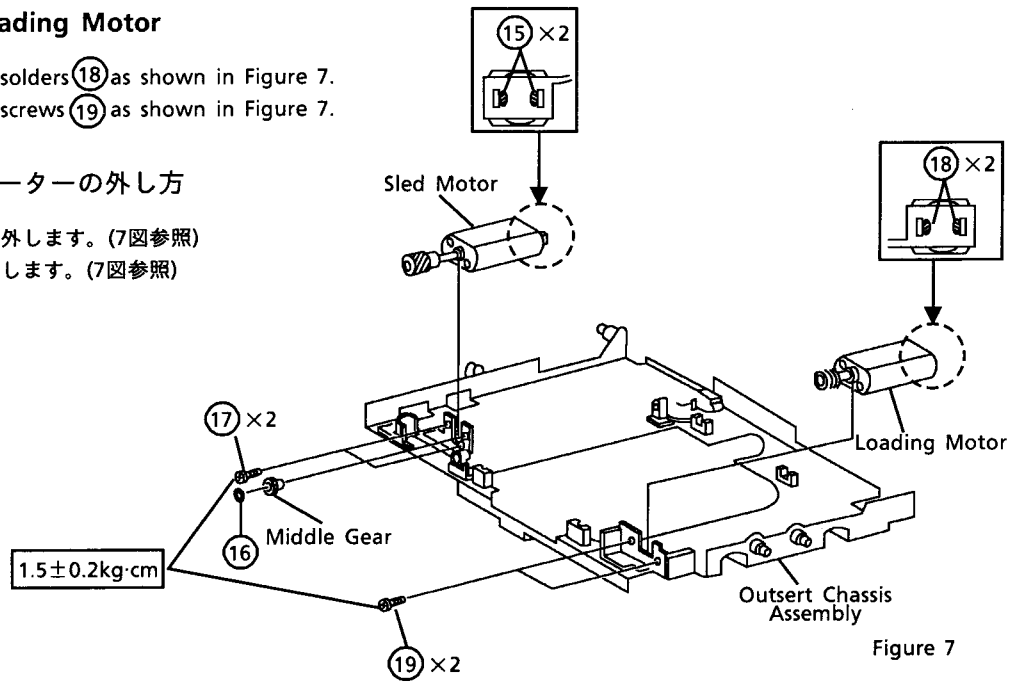

Figure 7
- (1) Remove the two solders (15) as shown in Figure 7.
- (2) Remove the Middle Gear, by removing the washer (16) as shown in Figure 7.
- (3) Remove the two screws (17) as shown in Figure 7.
- (1) Remove the two solders (18) as shown in Figure 7.
- (2) Remove the two screws (19) as shown in Figure 7.